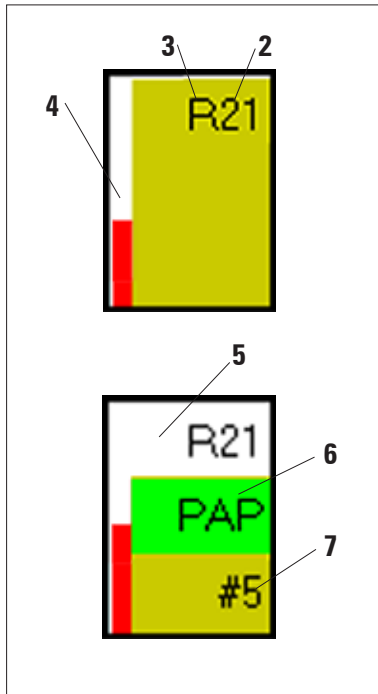

Fig. 51
- Select a reagent station (via the corresponding button), and press the **REAGENT LIST** button in the **STATION DETAILS** menu (Fig. 51).